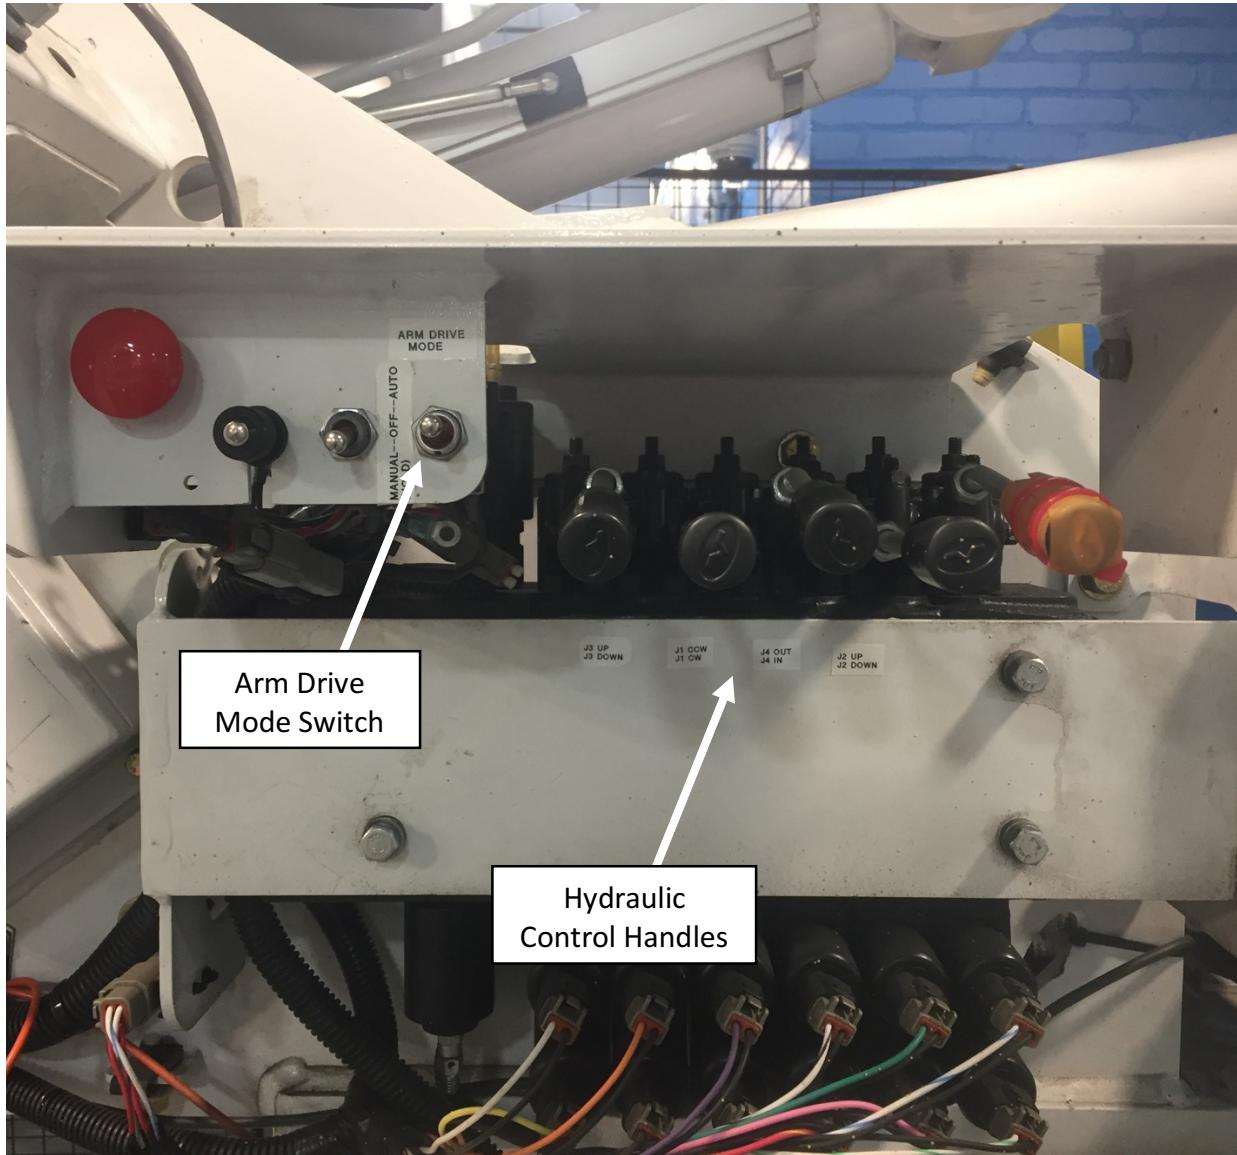

Figure 3: Boom Control Panel, AT40GW
- 2) Verify that the ARM DRIVE MODE switch is set to off (neutral position) (Fig. 3)
- a) Press down and hold ARM DRIVE MODE switch (Fig. 3) in MANUAL position. If you release this switch, the vehicle will not move.
- b) Carefully use handles to operate axes J1 through J4 (Fig. 3). Handle directions are labeled. Exercise caution when moving arm – arm can move extremely quickly, and direction of motion is not always intuitive.